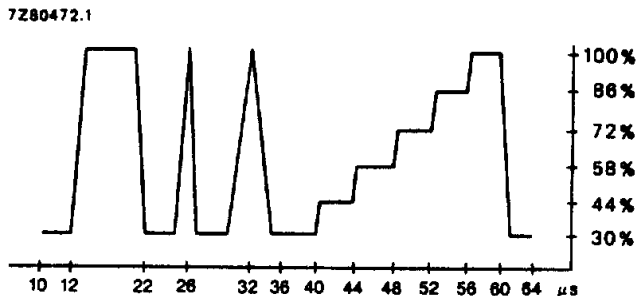

Fig.9 E.B.U. test signal wave form (line 330).
10. Measured in accordance with the test line shown in Fig.9.